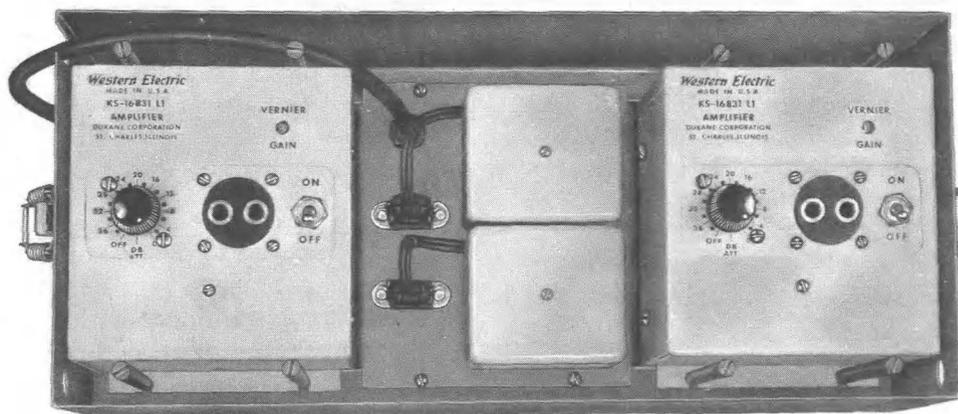

Fig. 3 — Equipment Mounted on List 5 Carrying Case
2.02 Fig. 3 shows the list 1 amplifiers and list 4 power supplies mounted in a list 5 carrying case.